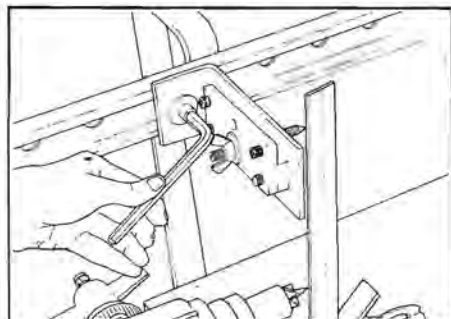

Figure 5. Use a combination square to align the left-hand template center with the drive center.
1. Align the left-hand template center with the drive center. Move the table assembly next to the headstock and lock the carriage. Table height should be previously adjusted so the top of the cutter is level with drive center. Loosen the template bracket screw (11) with a 5/16" Allen wrench and the two template clamp screws (8) with a 1/4" Allen wrench.
Position an accurate combination square so that its front edge just contacts the tip of the drive center. Carefully move the template support assembly forward on the channel until the tip of the template center just contacts the front edge of the square. Tighten screw (11). (See Figure 5.)